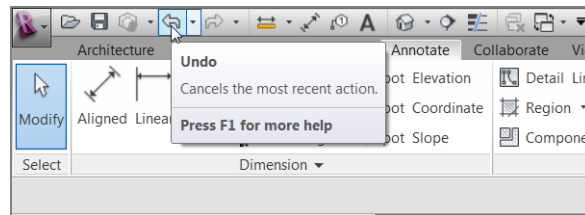

FIGURE 5.35: Click the Undo button.
8. Click the Undo button, as shown in Figure 5.35.